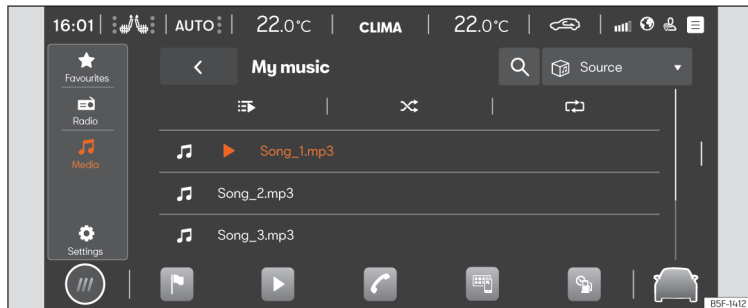

Fig. 170 Schematic diagram: Media view
- Press **HOME** > ► > 🎵 >>> **Fig. 170**.